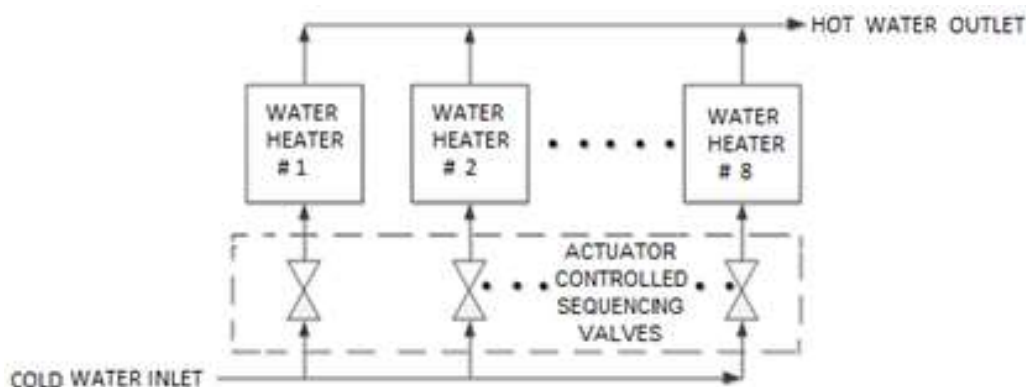

Figure 8.1: Simplified Block Diagram - Water Heater Management (WHM)
The On-Board-Water-Heater Management system II (WHM II) is a feature integrated in the Edge Controller, designed to stage and coordinate multiple AERCO Innovation water heaters while maximizing operational efficiency. The WHM software code resides in each Edge Controller that is part of the system. The WHMII can control up to eight (8) water heaters in parallel. Each water heater controlled by the WHM must be equipped with an Actuator-Controlled Sequencing Valve (P/N **92123**). These valves are installed on the cold-water inlet on each water heater in the WHM network (see Figure 8.1).
The Edge Controller's Water Heater Management System (WHM) is designed to ensure that all water heaters in the system operate at maximum efficiency. This is accomplished by monitoring the Air/Fuel Valve position (VP) of all water heaters that have their sequencing valves open. Units with open sequencing valves are called enabled units. Units with closed sequencing valves are called disabled units. Units which are unable to function, due to a fault or user intervention, are called offline units. When there is minimal or no demand for hot water, the sequencing valve for one unit will be open. As system load increases, the WHM will open the sequencing valves on additional heaters. A simplified block diagram of multiple water heaters connected to a WHM is shown in Figure 8.1.